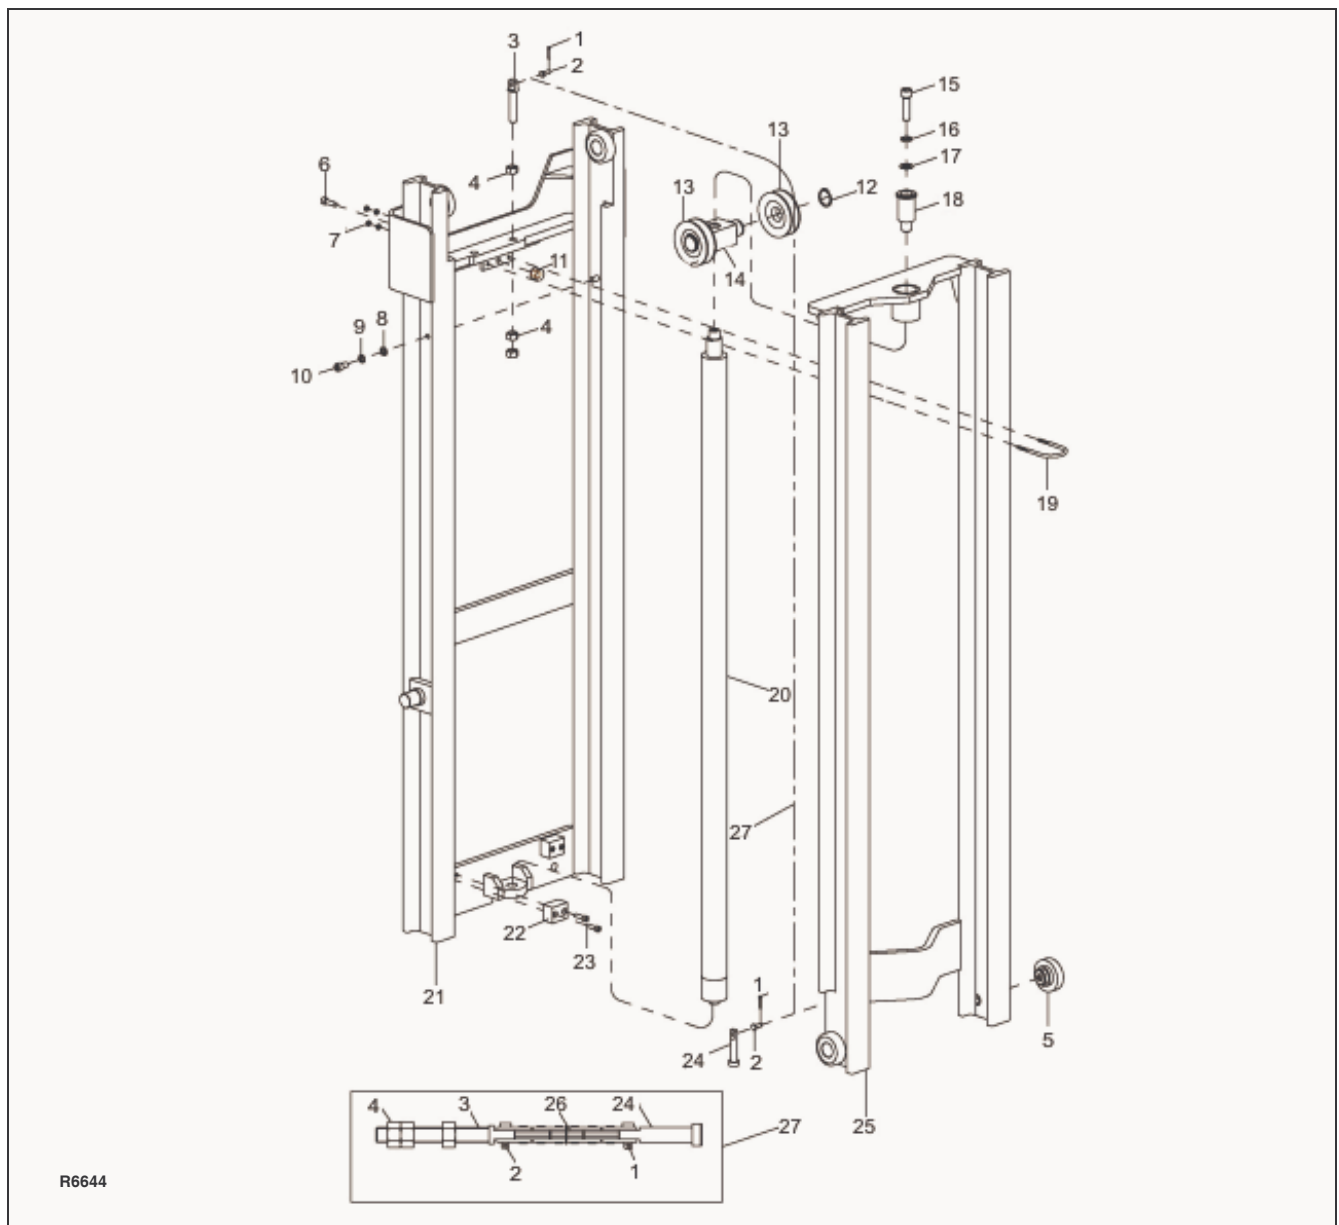

Figure 8-1 Mast (Telescopic)
3. Loosen jam nuts (4, Figure 8-1), located above the mast cross member, to allow for adjustment of middle jam nut (4).
4. Remove cotter pin (1, Figure 8-1) and clevis pin (2) connecting chain (26) to chain anchor (24) at the lift carriage.
5. Remove cotter pin (1) and clevis pin (2) connecting chain (26) to chain anchor (3) at the outer mast.
6. Remove chain from sheave (13).
7. Position new chain on sheave (13).
8. Secure chain to chain anchor (3) at the outer mast with clevis pin (2) and cotter pin (1).
9. Connect the opposite end of chain to chain anchor (24) at the lift carriage with clevis pin (2) and cotter pin (1).